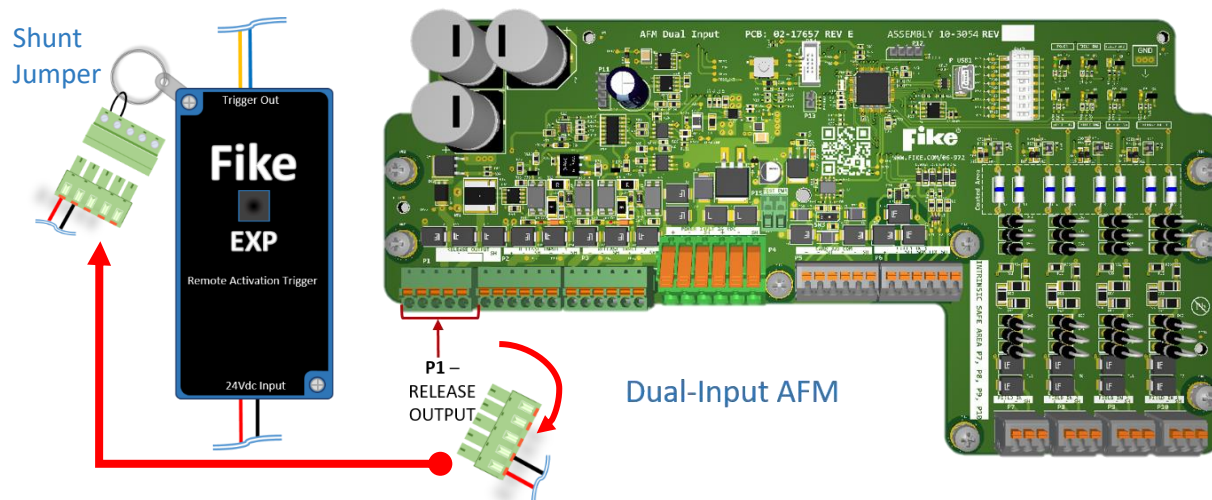

Figure 9 - EXP AFM Firing Circuit Activation Current Test (Dual Input shown)
1. **WARNING!** Shunt the field wiring of all energetic devices being tested (GCAs or Metrons) by unplugging the connector attached to the Release Output plug (P1) of the EXP AFM. Then, plug the GCA or Metron field wiring into the shunt jumper supplied with the Remote Activation Trigger. See Figure 9.